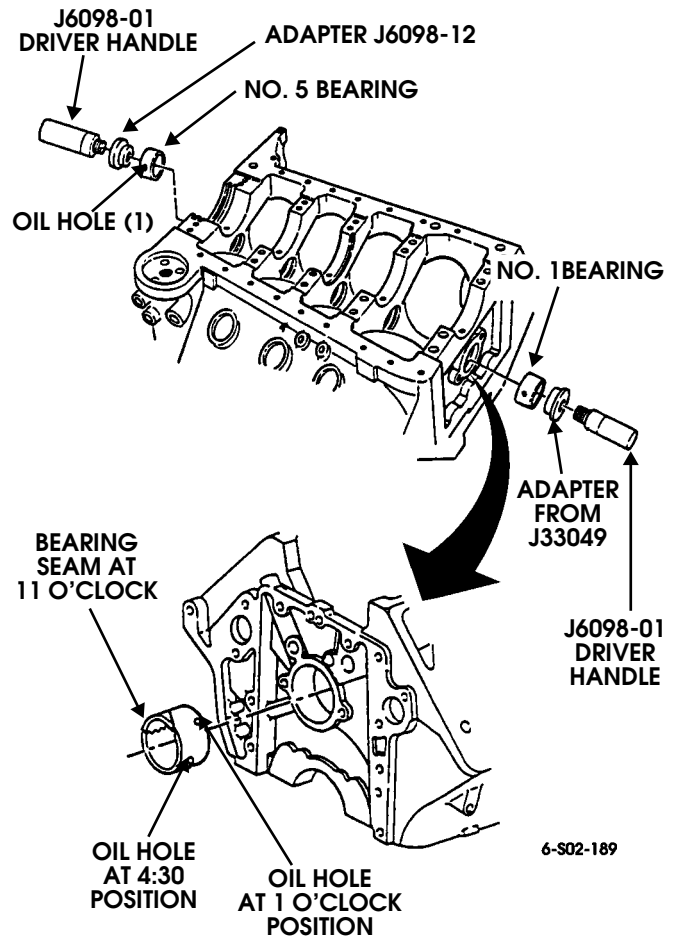

Figure 2-133: Installing Cam Bearings 1 and 5
8. Align oil hole in new No. 5 bearing with J6098-01 alignment mark on block. Seat bearing in block with driver handle and adapter J6098-12 (Figure 2-133).
9. Align both oil holes in new No. 1 bearing with oil holes in block (Figure 2-133). Bearing notch should be facing out and seam at 11 O'clock position. Seat bearing in block with driver handle and adapter J33049 (Figure 2-133).
10. Check installation of bearing number 1 and 5. Verify that bearing oil holes are centered on slots in bores and that bearings are flush with edges of bearing bores. The small groove in each bearing should be towards upper part of block. Remove and reposition either bearing if misaligned (Figure 2-133).